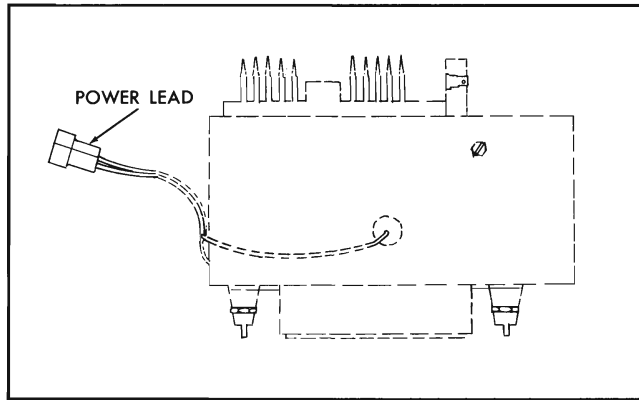

Fig. 12-3 Radio Power Lead
1. Disconnect antenna and power leads from radio (Figs. 12-3 and 12-4).